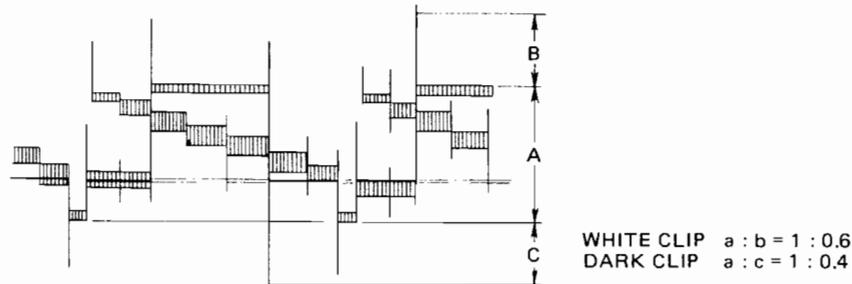

Fig. 2-11 Clipped Waveform
3. Adjust VR2A6 (White Clip) and VR2A5 (Dark Clip) on the PCB-Y/C so that the overshoot appearing at the white peak side and the under shoot at the sync tip side are 60% and 40% of the regular signal level, as shown in Fig. 2-11.
4. If carrier deviation is shifted after the adjustment, readjust item 2-5-1.